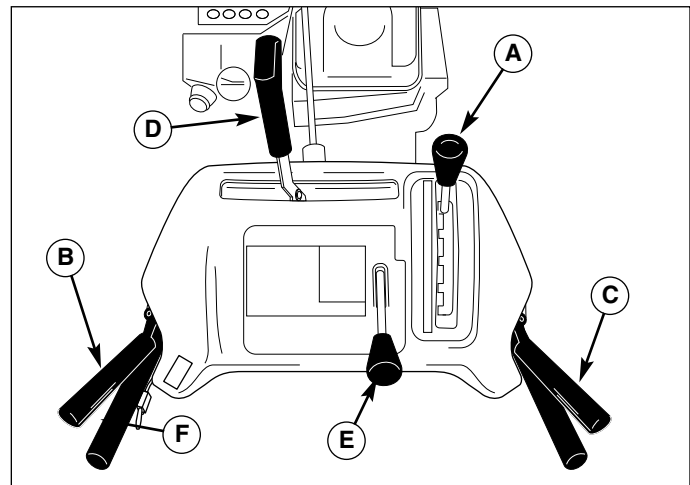
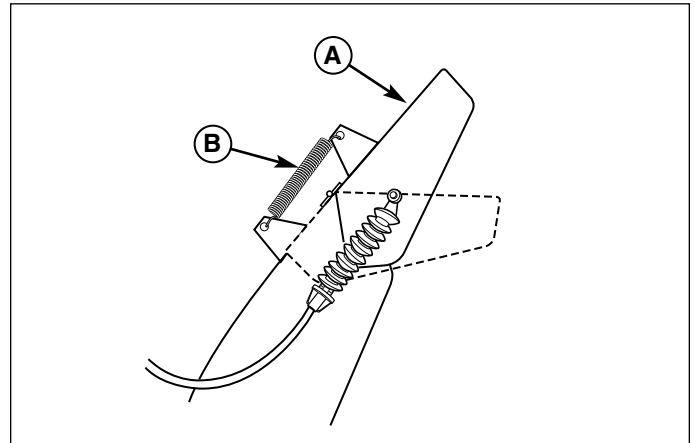

Figure 5. Controls (From Operator's Position)
Figure 6. Remote Deflector Control
3. Fully press and hold the auger engage control (C, Figure 5) on the right-hand grip to begin auger rotation. Releasing the auger engage control will disengage the auger —**unless the Free-Hand™ Control has been activated (See Step 5 below).**
4. Fully press and hold the traction & Free-Hand™ Control lever (B, Figure 5) on the left-hand grip to engage the traction drive and begin moving the snowthrower. To disengage the traction drive, completely release the lever.
6. Select forward or reverse speeds as needed using the Speed Selector (A, Figure 5). Release both control levers before changing drive speeds.
Use the speed selector (A, Figure 5) to control the drive speed of the snowthrower. There are six forward speeds and two reverse speeds.
To change speeds, release the auger control lever (B, Figure 5), then move the speed selector to the desired setting. Fully depress the control levers to resume.
1. Push the remote deflector control (E, Figure 5) to the left to UNLOCK the control. Sliding the control forward will put the deflector to the maximum throwing position (A, Figure 6). Sliding the control backwards to decrease the throwing distance.